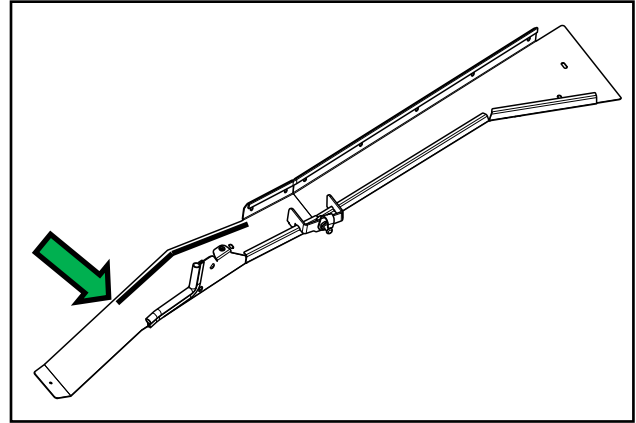

Fig. 13.6 Expanding Foam, Driver Side
13.6 Per fig. 13.6, install Expanding Foam to the driver side B-Pillar as shown. Over the next 24 hours, this foam will expand to fill the gap between the B-Pillar and the vehicle's side panels.